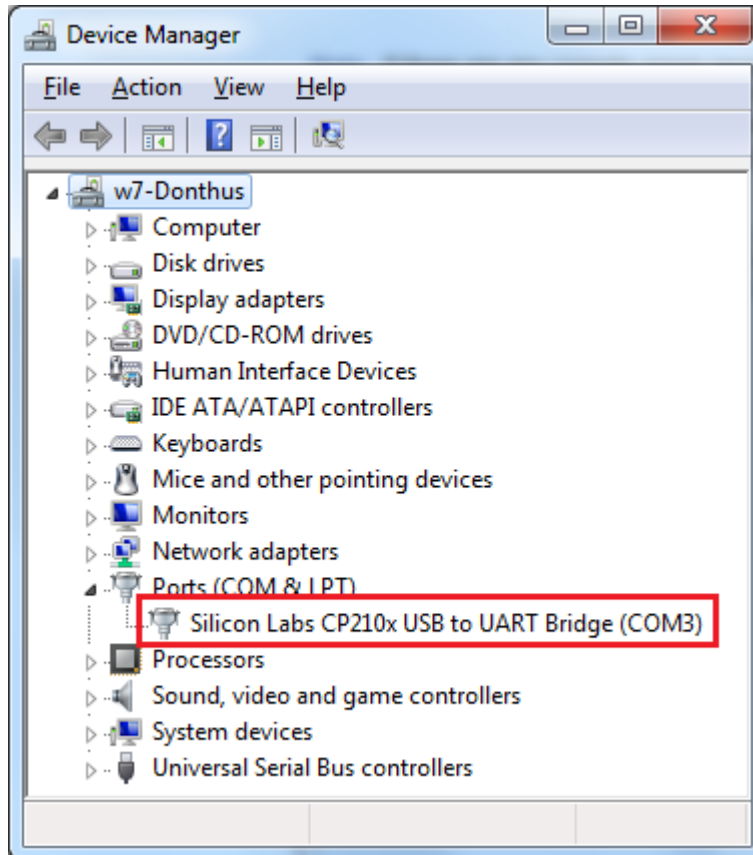

Figure 28 Device Manager Listing Silicon Labs CP210x USB to UART Bridge Drivers
2. If the Silicon Labs CP210x USB to UART Bridge drivers are automatically detected (this can be verified in Device Manager), as shown in Figure 28, proceed to next step; otherwise follow the Step 6 - Installing Drivers for the USB to RS232 Bridge.